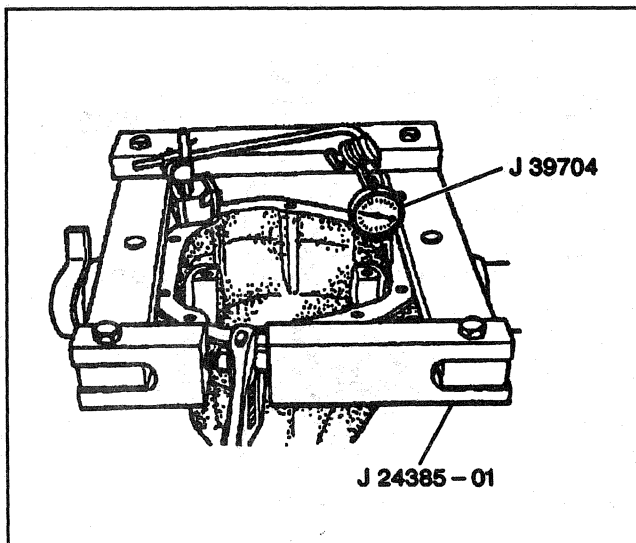

Figure 27—Mounting The Spreader
12. Assemble J 24385-01 to the axle (Figure 27).